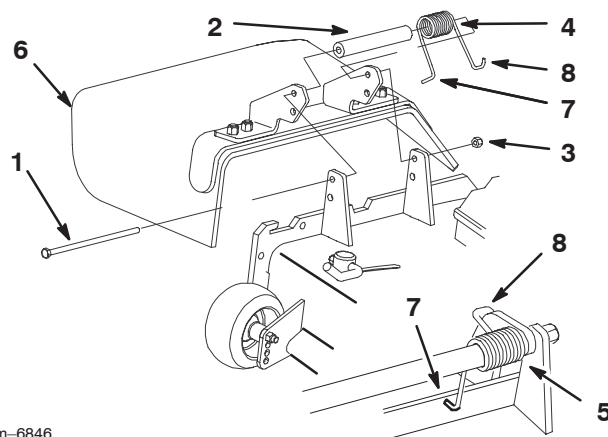

Figure 78
1. Remove the locknut, bolt, spring and spacer holding the deflector to the pivot brackets (Fig. 78). Remove damaged or worn grass deflector.
Note: Make sure the L end of spring is installed behind deck edge before installing the bolt as shown in figure 78.
3. Install bolt and nut. Place J hook end of spring around grass deflector (Fig. 78).